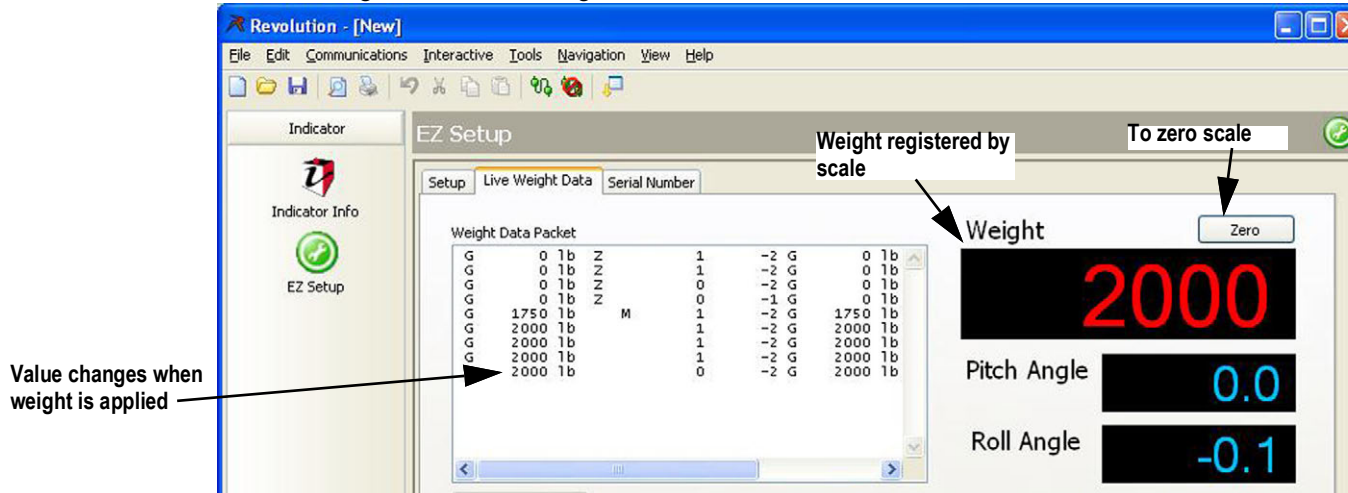

Figure 3-28. Live Data Screen with Weight Applied
4. Verify pitch angle and roll angle is between -0.2 - + 0.2. See Figure 3-28.
10. View the pitch and roll angle settings in **Live Weight Data** screen. See Figure 3-28.